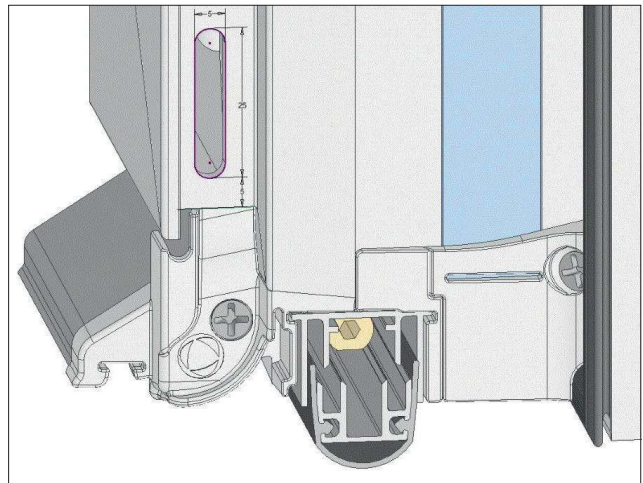

Fig. 11: Ventilation of the front chamber of the moving sash
- In the case of a dummy mullion element, the frame (incl. threshold) and the moving sash are installed in accordance with Section "01. Instructions for installing single-sash elements." In contrast to the single-sash element, the front chamber at the bottom of the moving sash in the area of the mullion stop (fig. 11) must be ventilated with a 25 x 5 mm slot.